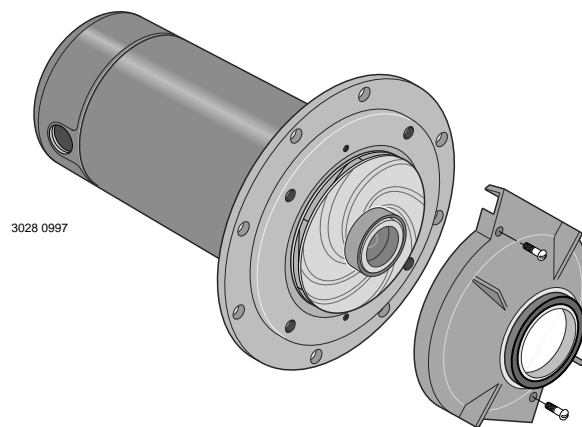

Figure 15 – Remove Diffuser
1. Remove screws fastening diffuser to seal plate; remove diffuser (see Figure 15). Exposed impeller can now be cleaned.